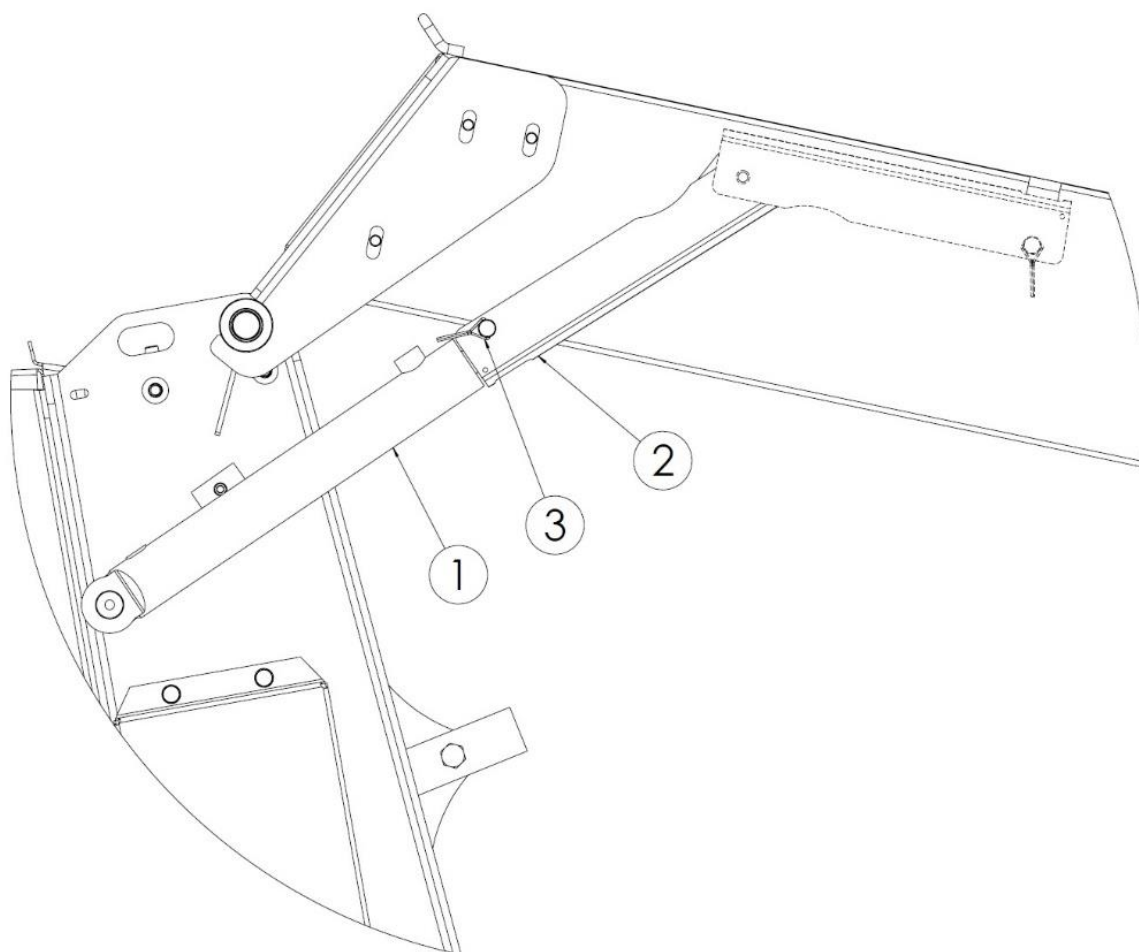

Fig. 48. Locks for securing the cylinders
Secure the lifted adapter cover in its upper position, as shown in Fig. 48. On both sides of the spreader, use clamps (2) fixed to the upper pins of the hydraulic cylinders (1) to secure them. Move the clamps (2) fully upwards so that they embrace the stretched cylinder rods. Lock them with locking pins (3) against unauthorised cover closing. Unlock the clamps of the cover after completing the planned activities.